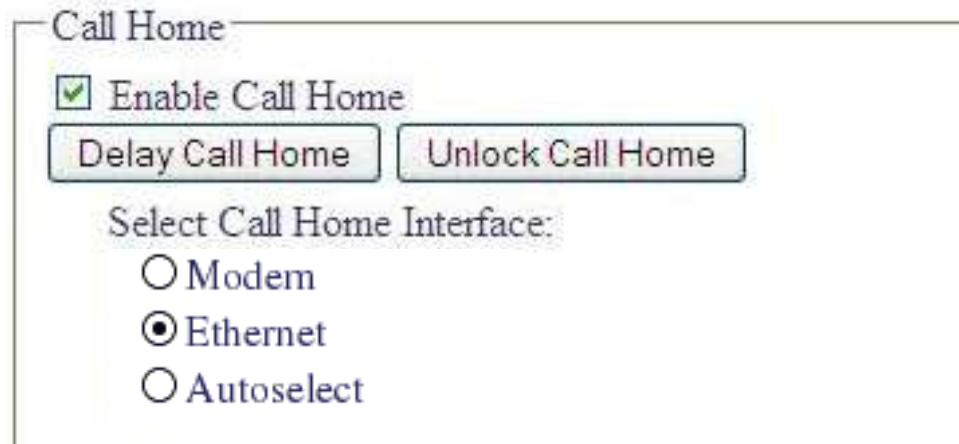

Figure 111. Unlock Call Home
- If ECC is locked due to too many failed tries, you can clear the lock by clicking **Unlock Call Home** as shown in Figure 111.